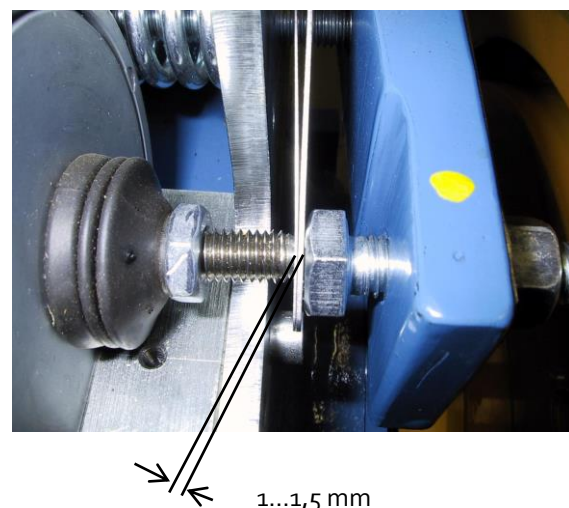

Fig. 5: Magnet Clearance
3. Measure the pre set Spring length L between both the Contact areas. (See Fig. 5).